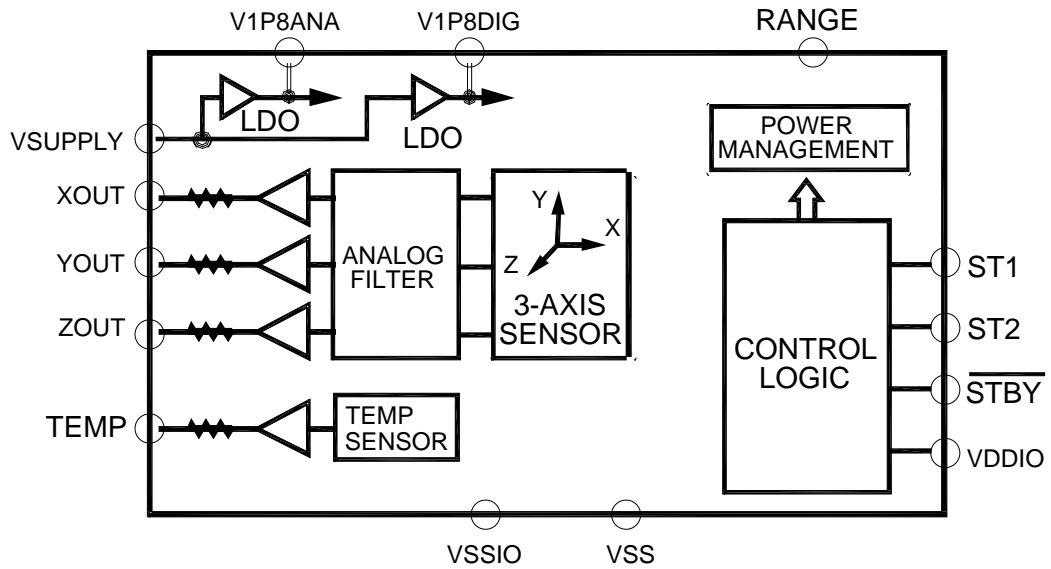

FIGURE 4. Functional block diagram.
3.5.4 Functional block diagram. The functional block diagram shall be as shown in figure 4.